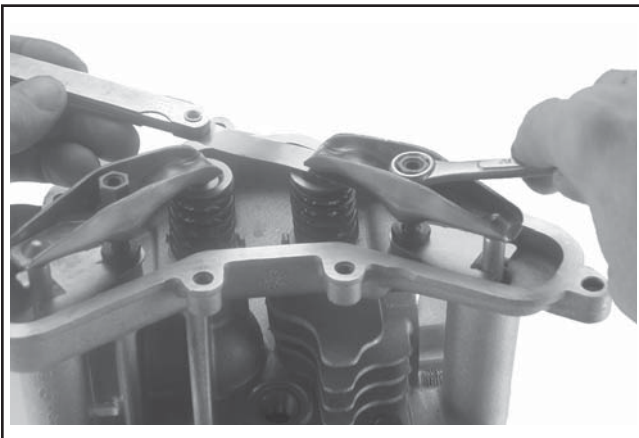

Figure 10-44. Adjusting Valve Clearance (Lash).
4. With the engine at TDC of the compression stroke, insert the correct size flat feeler gauge (see below) between the appropriate valve stem and rocker arm. Tighten the adjustment nut with a wrench until a slight drag is felt on the feeler gauge. Hold the nut in that position and torque the set screw (T15 Torx drive) to **5.5 N·m (50 in. lb.)**. To prevent damage to the nut, torque the Torx screw only. Perform the adjustment procedure on the other valve. See Figures 10-44 and 10-45.